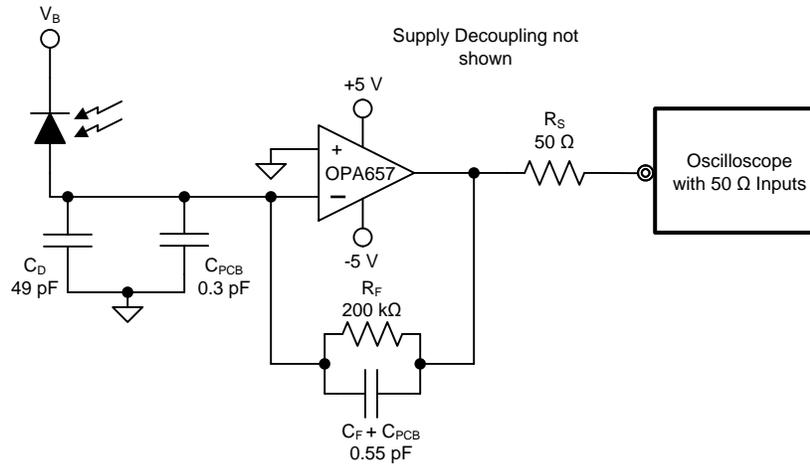

Figure 34. Wideband, High-Sensitivity, Transimpedance Amplifier Diagram
this term only begins to be a significant term versus the input offset voltage for source impedances greater than 750 k Ω . This would also be the feedback resistor value for transimpedance applications (see Figure 34) where the output DC error due to inverting input bias current is on the order of that contributed by the input offset voltage. In general, except for these extremely high-impedance values, the output DC errors due to the input bias current may be neglected.
As an example, compute the worst-case output DC error for the transimpedance circuit of Figure 34 at 25°C and then the shift over the 0°C to 70°C range given the following assumptions.
Designs that require high bandwidth from a large area detector with relatively high transimpedance gain benefit from the low input voltage noise of the OPA657. This input voltage noise is peaked up over frequency by the diode source capacitance, and can, in many cases, become the limiting factor to input sensitivity. The key elements to the design are the expected diode capacitance (C_D) with the reverse bias voltage (V_B) applied, the desired transimpedance gain, R_F , and the GBP for the OPA657 (1600 MHz). Figure 34 shows a transimpedance circuit with the parameters as described in Table 1. With these three variables set (and including the parasitic input capacitance for the OPA657 and the PCB added to C_D), the feedback capacitor value (C_F) may be set to control the frequency response. To achieve a maximally-flat second-order Butterworth frequency response, the feedback pole should be set to:
Adding the common-mode and differential mode input capacitance (0.7 + 4.5) pF and the trace PCB capacitance of approximately 0.3 pF to the 49-pF diode source capacitance of Figure 34, and targeting a 200-kΩ transimpedance gain using the 1600-MHz GBP for the OPA657 requires a feedback pole set to 3.5 MHz. This requires a total feedback capacitance of 0.2 pF. Such low capacitance values are difficult to achieve due to parasitics from the PCB and the surface mount components.
Equation 8 gives the approximate closed loop bandwidth of the system to be 4.8 MHz. Because the target bandwidth is only 1 MHz, the feedback capacitance can be increased to a more practical value while maintaining the bandwidth requirements of the design. A feedback capacitance of 0.550 pf was chosen. This includes the physical 0.4-pF feedback capacitor in addition to the 0.1-pF parasitic capacitance from the feedback resistor and around 50-fF capacitance from the PCB traces. Removing the ground and power planes from under the surface mount components helps to minimize this parasitic capacitance. The simulated closed loop bandwidth of Figure 34 was 1.7 MHz. The phase margin was close to 82°. This design should result in a system with negligible overshoot to a pulsed input.
3. **Careful selection and placement of external components preserve the high-frequency performance of the OPA657.** Resistors should be a very low reactance type. Surface-mount resistors work best and allow a tighter overall layout. Metal film and carbon composition axially leaded resistors can also provide good high-frequency performance. Again, keep the leads and PCB trace length as short as possible. Never use wirewound-type resistors in a high-frequency application. Because the output pin and inverting input pin are the most sensitive to parasitic capacitance, always position the feedback and series output resistor, if any, as close as possible to the output pin. Other network components, such as noninverting input termination resistors, should also be placed close to the package. Where double-side component mounting is allowed, place the feedback resistor directly under the package on the other side of the board between the output and inverting input pins. Even with a low parasitic capacitance shunting the external resistors, excessively high resistor values can create significant time constants that can degrade performance. Good axial metal film or surface-mount resistors have approximately $0.2\ \text{pF}$ in shunt with the resistor. For resistor values greater than $1.5\ \text{k}\Omega$, this parasitic capacitance can add a pole and/or zero below $500\ \text{MHz}$ that can effect circuit operation. Keep resistor values as low as possible consistent with load driving considerations. It has been suggested here that a good starting point for design would be to keep $R_F \parallel R_G < 150\ \Omega$ for voltage amplifier applications. Doing this automatically keeps the resistor noise terms low, and minimizes the effect of the parasitic capacitance. Transimpedance applications (see Figure 34) can use whatever feedback resistor is required by the application as long as the feedback-compensation capacitor is set considering all parasitic capacitance terms on the inverting node.